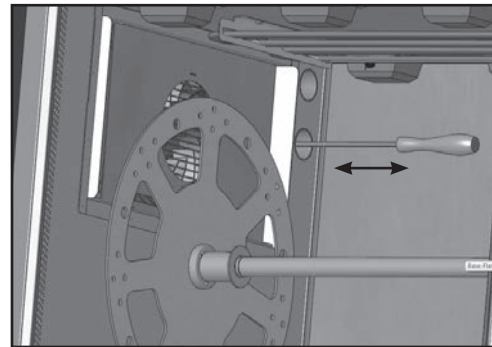

Figure 2
2. Work the brush in and out as indicated by the arrows above in Figure 2 to remove any grease/debris from the exhaust tube.